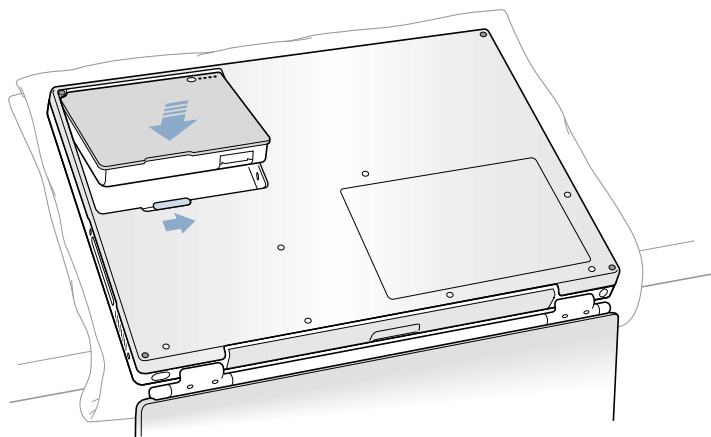

Figure 7
3. Replace the battery (**Figure 7**).